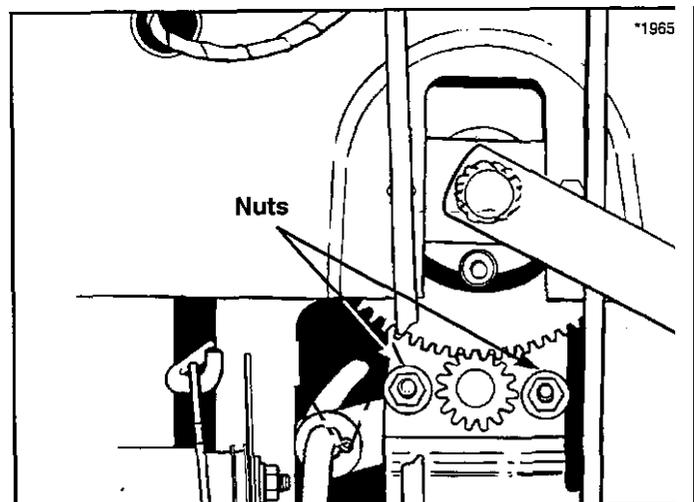

Figure 34. Steering Gear Adjustment
1. See Figure 34. Loosen the two nuts and adjust the bracket so the gear teeth are closely meshed.